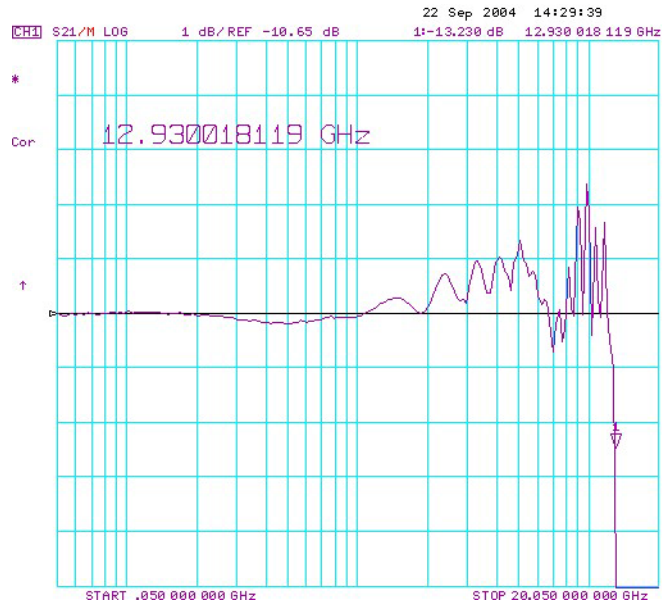

Figure 176 Typical Waveform for an 1134A Prob
- 45** Then select the **Data/Memory** screen key. You may need to adjust the **Reference Value**, located under the **Scale Ref** key, slightly to position the waveform at center screen at 100 MHz. The waveform should be similar to that shown in Figure 176.